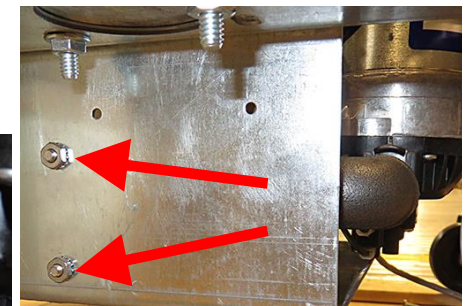

Figure 8
10. Remove the two (2) nuts on the outside left of the ATO tray, as viewed from the rear (see Figure 8).